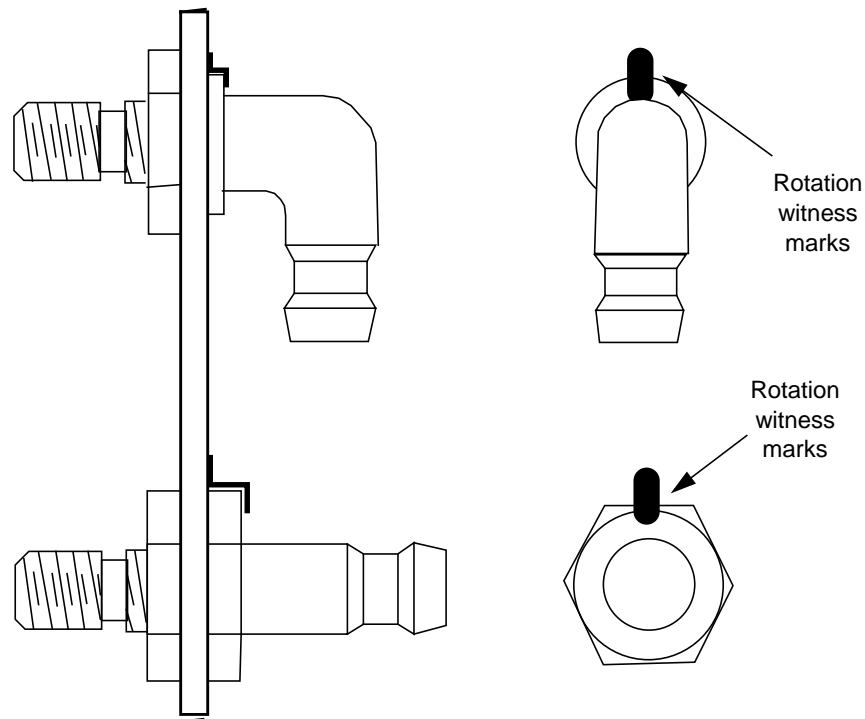
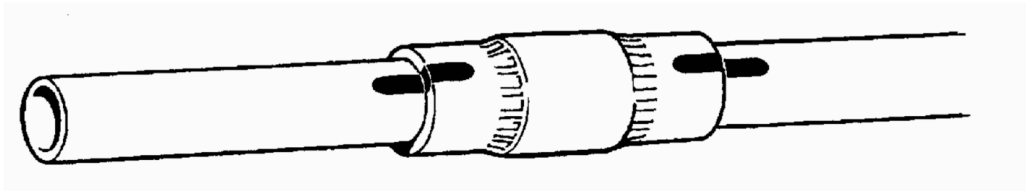

Figure 7. Rotation Witness Marking of Bulkhead Fittings
Figure 9. Union Rotation Witness Stripe
- Step 3. Apply a rotation witness mark using white tamper proof sealant to the bulkhead and the fitting as shown in Figure 7. Do not apply a witness mark to the jam nut.
- 5.8.2 Apply a rotation witness mark using white tamper proof sealant to the tube and the fitting as shown in Figure 7 (bulkhead fittings) or Figure 9 (union fittings).
- 6.4 Check the rotation witness mark (see Figure 9) on all unions for evidence of rotation. If evidence of rotation is found, take corrective action as required.